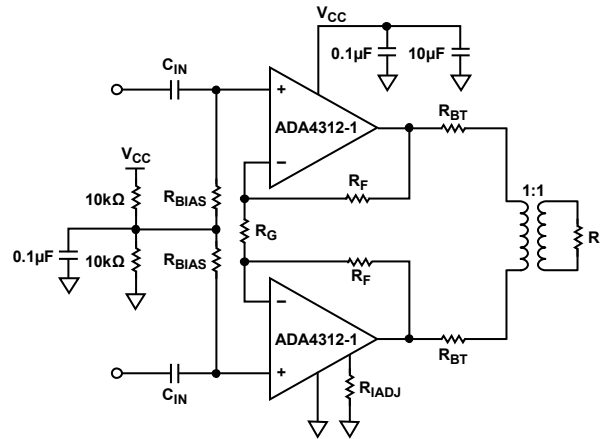
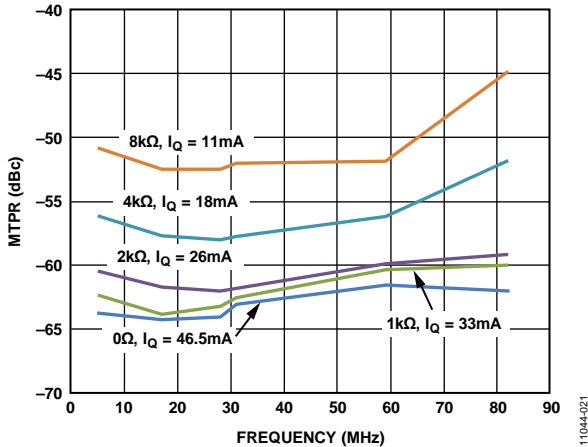

Figure 17. Typical G.hn Application Circuit
Figure 18. MTPR vs.  $R_{IADJ}$
The feedback resistor value has a direct impact on the closed-loop bandwidth of the current feedback amplifiers used in the architecture of the ADA4312-1 differential line driver. Table 5 provides a guideline for the selection of feedback resistor values used in typical differential line driver circuits (refer to Figure 17).
The patented input stage of the core amplifiers is not conducive to operating either core amplifier independently. The ADA4312-1 input stage is designed to operate only in differential applications similar to the circuit shown in Figure 17.
In systems such as G.hn PLC modems, half-duplex or time-division duplex (TDD) systems require the line driver to be switched between transmit mode and high output impedance receive mode. The ADA4312-1 is equipped with a shutdown pin (SD, Pin 9) that stops the line driver from transmitting while switching the outputs to a high output impedance equivalent to 10 kΩ in parallel with 2RF + RG (see Figure 17). The shutdown (SD) pin is compatible with standard 3.3 V CMOS logic. If the SD pin is left floating, an internal pull-up resistor places the output in a disabled, high output impedance state. SD logic is referred to GND (Pin 4), which should be connected to 0 V.
In single-supply applications such as the one shown in Figure 17, it is necessary to establish a midsupply operating point (VMID). To establish VMID, use two 10 kΩ resistors to form a resistor divider from VCC to ground and a 0.1 μF ceramic chip capacitor for decoupling. Place the VMID decoupling capacitor and the RBIAS resistors as close as possible to the ADA4312-1.
Note that there is a trade-off between the adjusted quiescent current and the linearity (or MTPR) of the transmitted signal. Multitone power ratio (MTPR) was monitored at 5 MHz, 17 MHz, 28 MHz, 31 MHz, 59 MHz, and 82 MHz. Figure 18 can be used to gauge the approximate degradation of MTPR vs.  $R_{IADJ}$  and quiescent current while transmitting the G.hn signal across a 40  $\Omega$  differential load in the circuit shown in Figure 17.